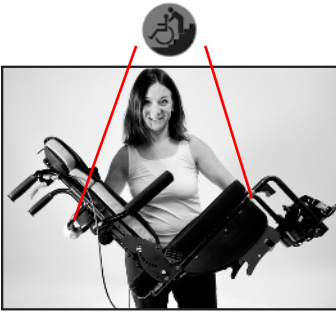

Fig. 11
1. To safely lift or carry the Seating Module, hold it using two hands. Fig. 11